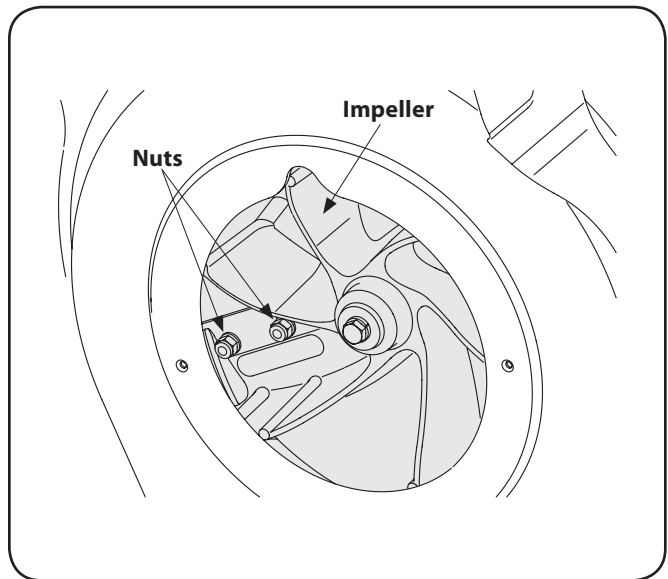

Figure 7-6
- The nuts on the flat head cap screws can be reached from underneath using a 1/2-inch socket, universal, and extension. See Figure 7-6.